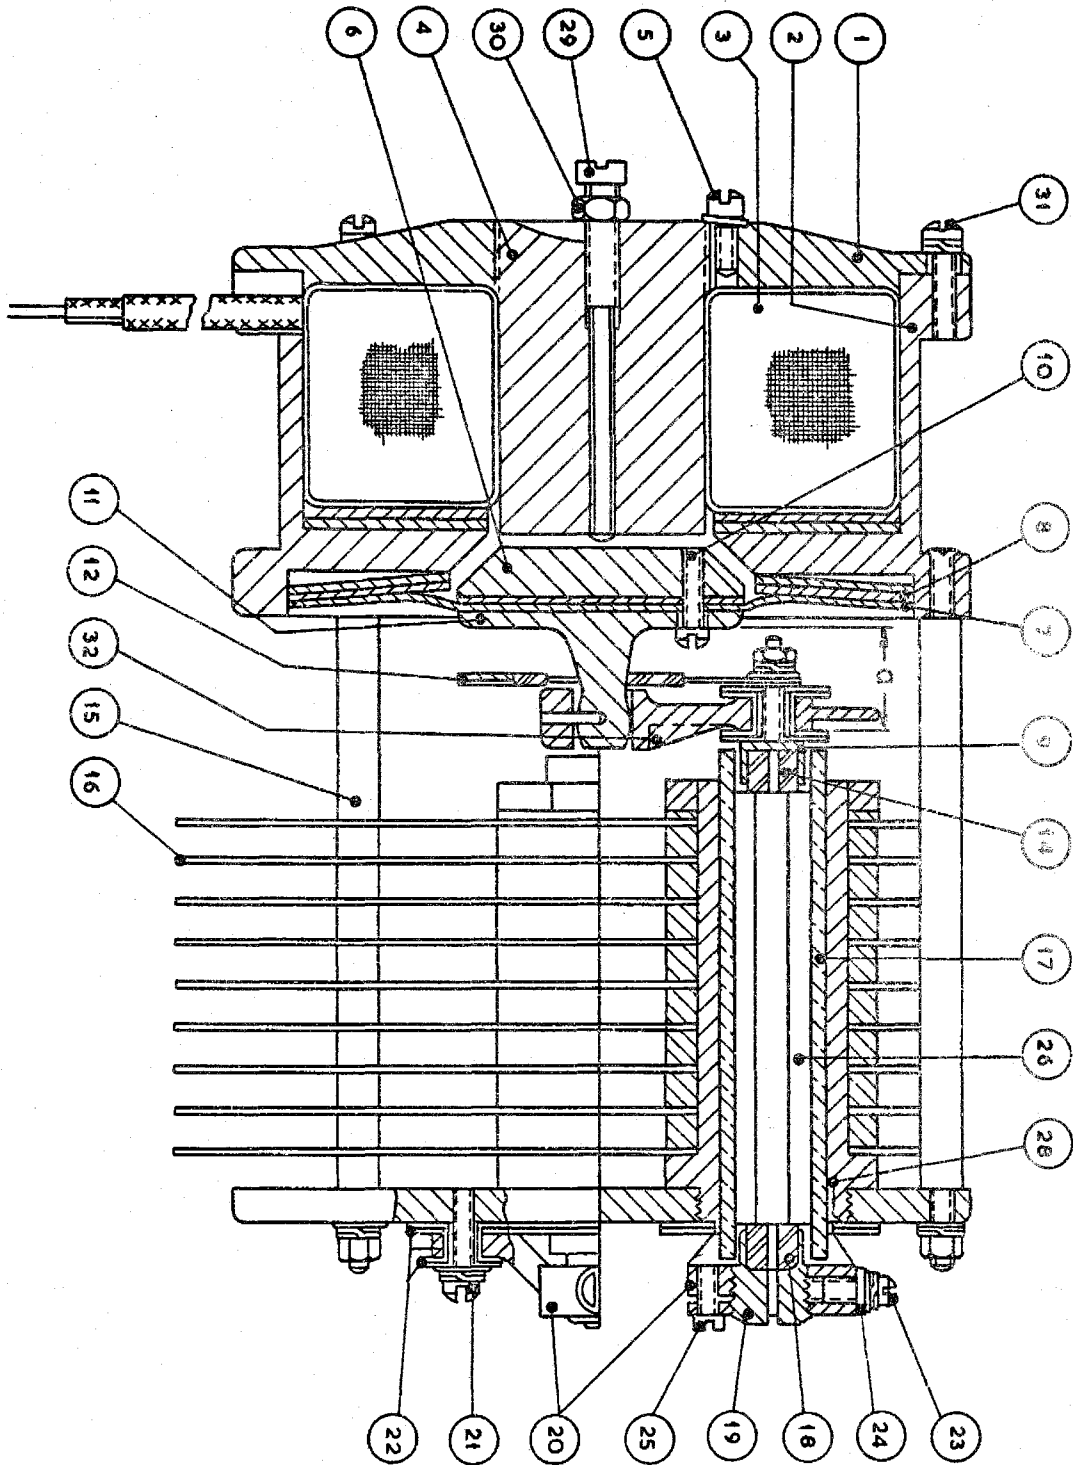

FIG. 5. ALTERNATOR AND EXCITER VOLTAGE REGULATOR
1. Remove the armature stop screw (29) from the magnet core (4).
2. Slacken the locking screws (25) and remove the compression screw (19) threaded in the top bracket (20). Pass a stiff rod through the centre holes in the carbon washers and remove the complete pile stack by tilting the regulator.
9. Replace the compression screw (19), tighten to its original position and lock. See that the pressure arm (32) is horizontal before proceeding with the other pile.
10. Slacken the two core lockingscrews and turn the core (4) anti-clockwise until two threads are showing.
11. As a final check to establish that the pressure arm is horizontal, measure by means of inside calipers the distance "a" (Fig. 5). This must be the same on both piles.
12. Make a pencil mark across the compression screw (19) and bracket (20). Care must be taken that all subsequent movements of the pile compression screws are made equally on each pile.